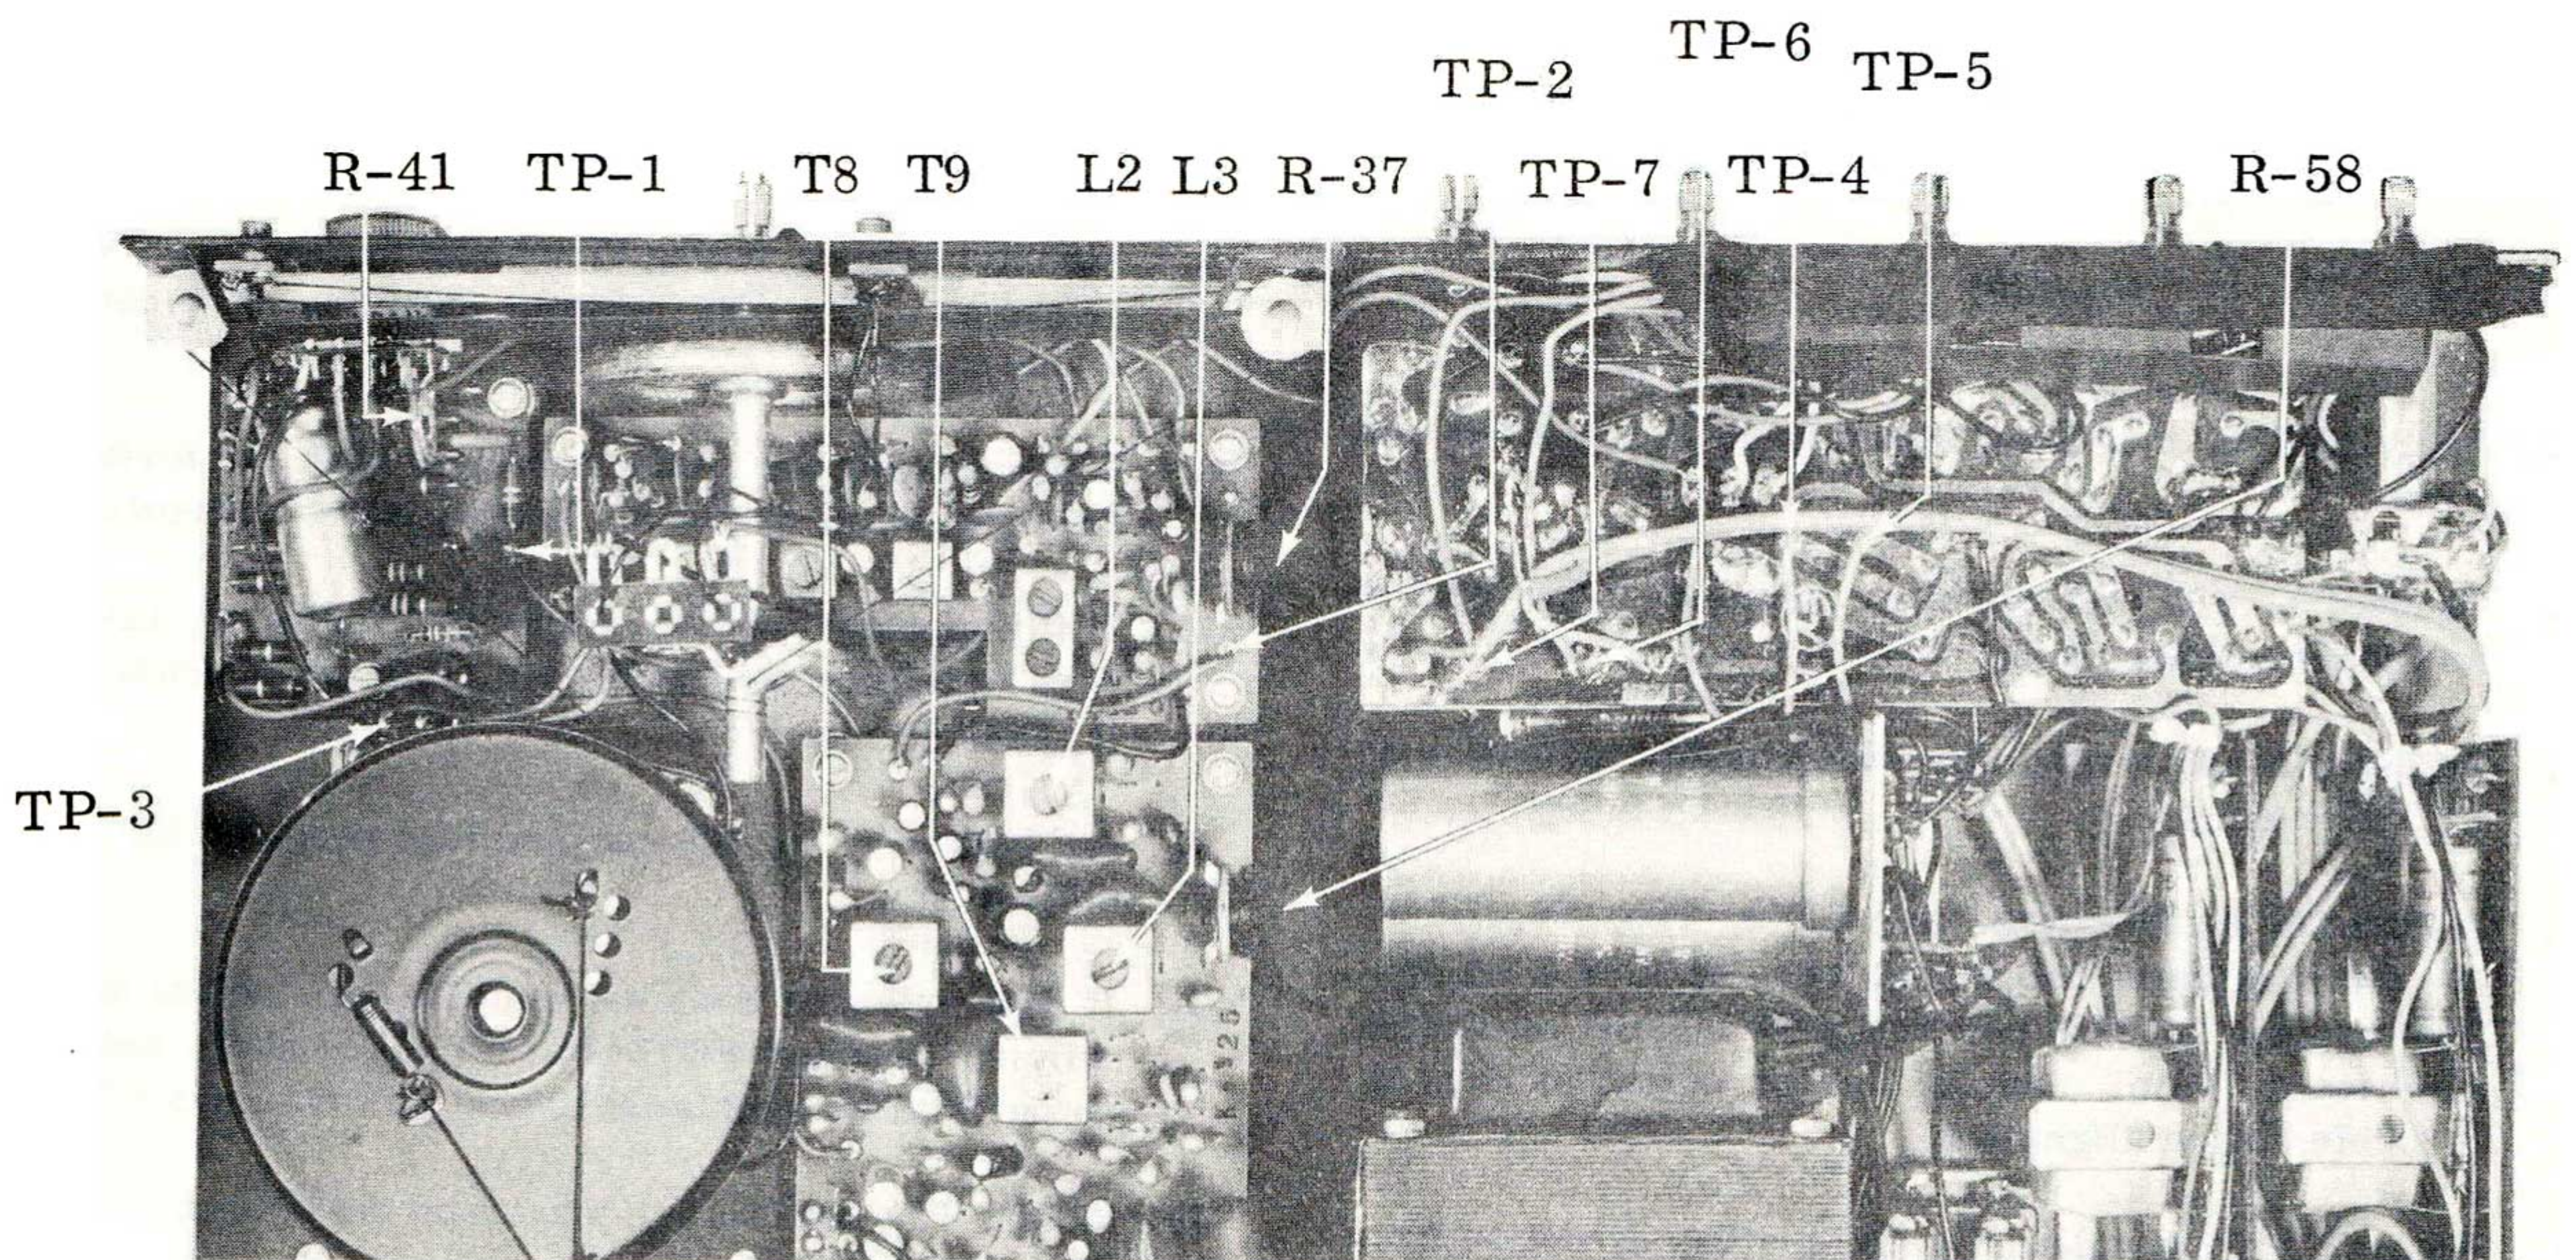

Figure 9 - Underside of Receiver Chassis
3. Rotate R58 fully clockwise. (See figure 9 below)
5. Alternately adjust T8 and T9 for maximum deflection. (See figure 9 below) DO NOT ADJUST L2 OR L3
6. Adjust T8 and T9 for maximum deflection. (See figure 9 below) DO NOT ADJUST L2 OR L3
2. Remove open fuse from holder. (See Fig.9, pg.8)